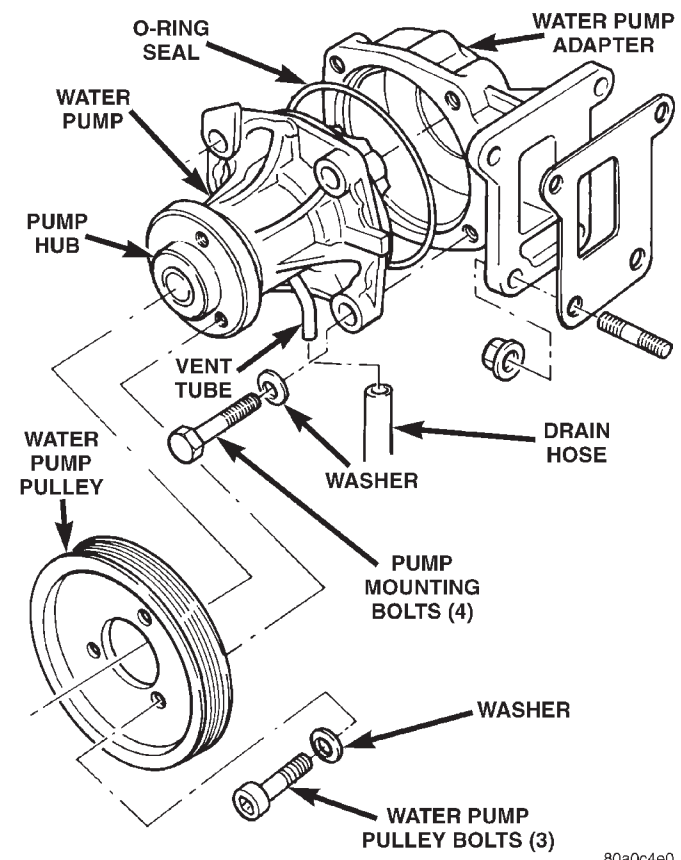

Fig. 30 WATER PUMP REMOVAL/INSTALL— TYPICAL
The water pump is serviced by replacing the pump and its impeller only. The water pump adapter (Fig. 30) does not have to be removed. The pump impeller is pressed on the rear of the pump shaft and bearing assembly. The pump is serviced only as a complete assembly with the impeller, housing, hub and bearing.
- (3) Drain the cooling system. Refer to Draining Cooling System in this group.
- (4) Lower the vehicle on the hoist.
- (5) Loosen **but do not remove** the 3 water pump pulley bolts (Fig. 30).
- (6) Remove the accessory drive belt from the water pump pulley. For procedures, refer to Belt Removal/Installation in the Engine Accessory Drive Belt section of this group.
- (7) Remove the (2) bolts retaining the coolant line assembly support bracket to the front of the water pump.
- (8) Remove the (3) water pump pulley bolts (Fig. 30).
- (9) Remove the water pump pulley from the water pump.
- (10) Disconnect the drain hose from the vent tube at the bottom of water pump (Fig. 30).
- (11) Remove the remaining (2) water pump mounting bolts (Fig. 30).
- (12) Remove the water pump from engine.
- (1) Clean the o-ring mating surfaces. If the original pump is to be reinstalled, remove any deposits or other foreign material. Inspect the water pump, water pump adapter and water pump mating surfaces for erosion or damage from cavitation.
- (2) Position a new rubber o-ring seal (Fig. 30) between the pump and pump adapter. Use petroleum jelly to hold the o-ring in place during installation.
- (3) Position the pump on the engine.
- (4) Install the (2) bolts retaining the coolant line assembly support bracket to the front of the water pump. Torque the bolts to 24 N·m (18 ft. lbs.).
- (5) Install the remaining (2) water pump mounting bolts. Torque the bolts to 24 N·m (18 ft. lbs.).
- (6) Install drain hose to vent tube at bottom of pump.
- (7) Position the water pump pulley on the water pump.
- (8) Install the water pump pulley bolts finger tight.
- (9) Install the accessory drive belt. For procedures, refer to Belt Removal/Installation in the Engine Accessory Drive Belt section of this group.
- (10) Torque the water pump pulley bolts to 24 N·m (18 ft. lbs.).
- (11) Fill the cooling system with coolant and check for leaks. Refer to Refilling Cooling System in this group.
- (12) Connect the negative battery cable.